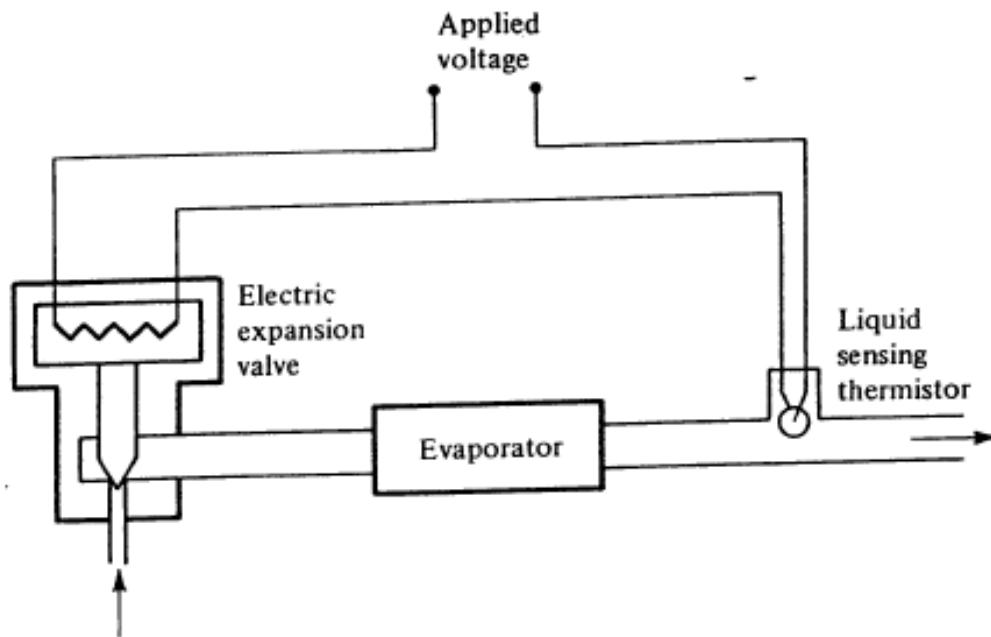

Figure 13-17 An electric expansion valve.
**13-12 Electric expansion valves** The electric expansion valve, shown schematically in Fig. 13-17, uses a thermistor to sense the presence of liquid in the outlet stream of the evaporator. When no liquid is present, the temperature of the thermistor increases, which drops its resistance and permits a greater current flow through the heater at the valve. The valve is thereby opened, allowing an increased refrigerant flow rate. One of the applications of the electric expansion valve is for heat pumps (Chap. 18), where